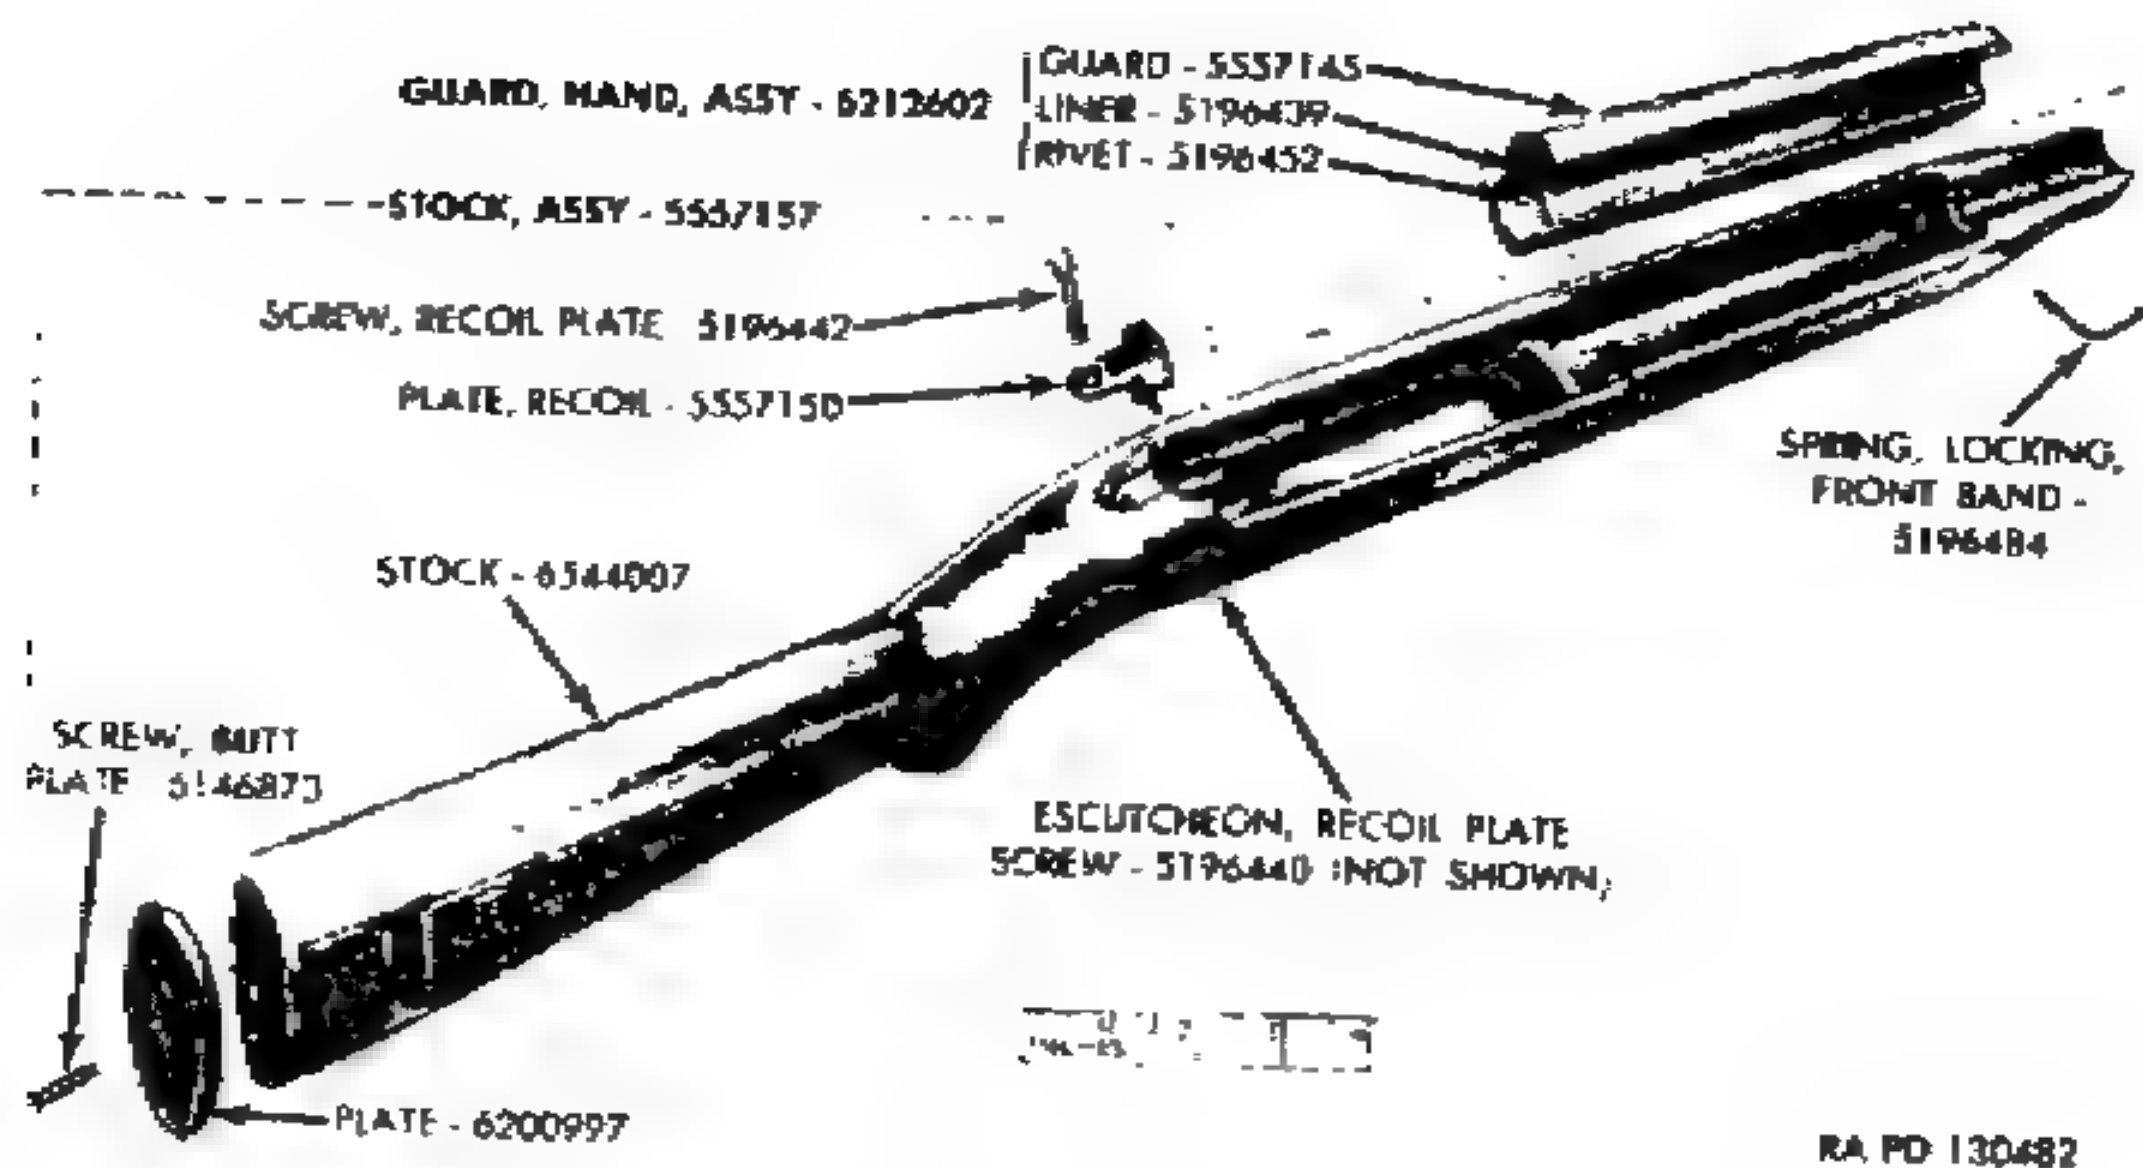

Figure 94. Stock and guard assemblies—carbine M1.
a. *Front Band Locking Spring* (figs. 94 and 95). Insert small, straight punch in spring spindle hole in left side of forward end of stock and drive out front band locking spring part way, from left to right; then rotate spring and pull from hole.
b. *Recoil Plate* (figs. 94 and 95).
- (1) Inscrew recoil plate screw counterclockwise until clear of escutcheon threads (above $\frac{3}{4}$ inch), then withdraw from stock and recoil plate.
- (2) Loosen recoil plate by tapping lightly on rear top face with a metal tool. Pull plate directly forward out of seating recess in stock. Do not pull up or down, because rear seating lug on plate seats in a horizontal recess cut in the stock.
- (3) Do not remove the recoil plate screw escutcheon from the stock except for replacement. To remove, thread recoil plate screw into the escutcheon from the under side until all of the threads of the escutcheon are engaged and pull escutcheon out of stock. If withdrawal is difficult, insert small straight punch from top of screw hole in stock and tap end of screw lightly to loosen escutcheon, or thread screw in from top, part way, and tap lightly; then proceed as above.
c. *Butt Plate* (figs. 94 and 95). Unscrew butt plate screw counterclockwise and remove from stock. Loosen butt plate by tapping it lightly. Pull to rear off stock. If butt plate is tight, do not pry off, as stock is likely to be damaged. Tap on edges lightly all the way around, until loose enough to pull from stock.
d. *Hand Guard* (figs. 94, 95, and 97). The liner of the hand guard assembly is riveted to the hand guard; do not remove it.
b. Loose Rivets in Hand Guard Liner. A loose hand guard liner (figs. 94 and 95) indicates improper spreading of the rivets. These